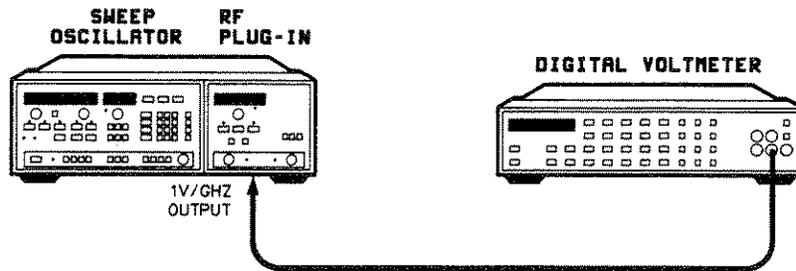

Figure 5-29. Frequency Reference 1V/GHz Output Test Setup
1. Connect the equipment as shown in figure 5-29 with the DVM connected to the rear panel 1V/GHz frequency reference connector, J4.